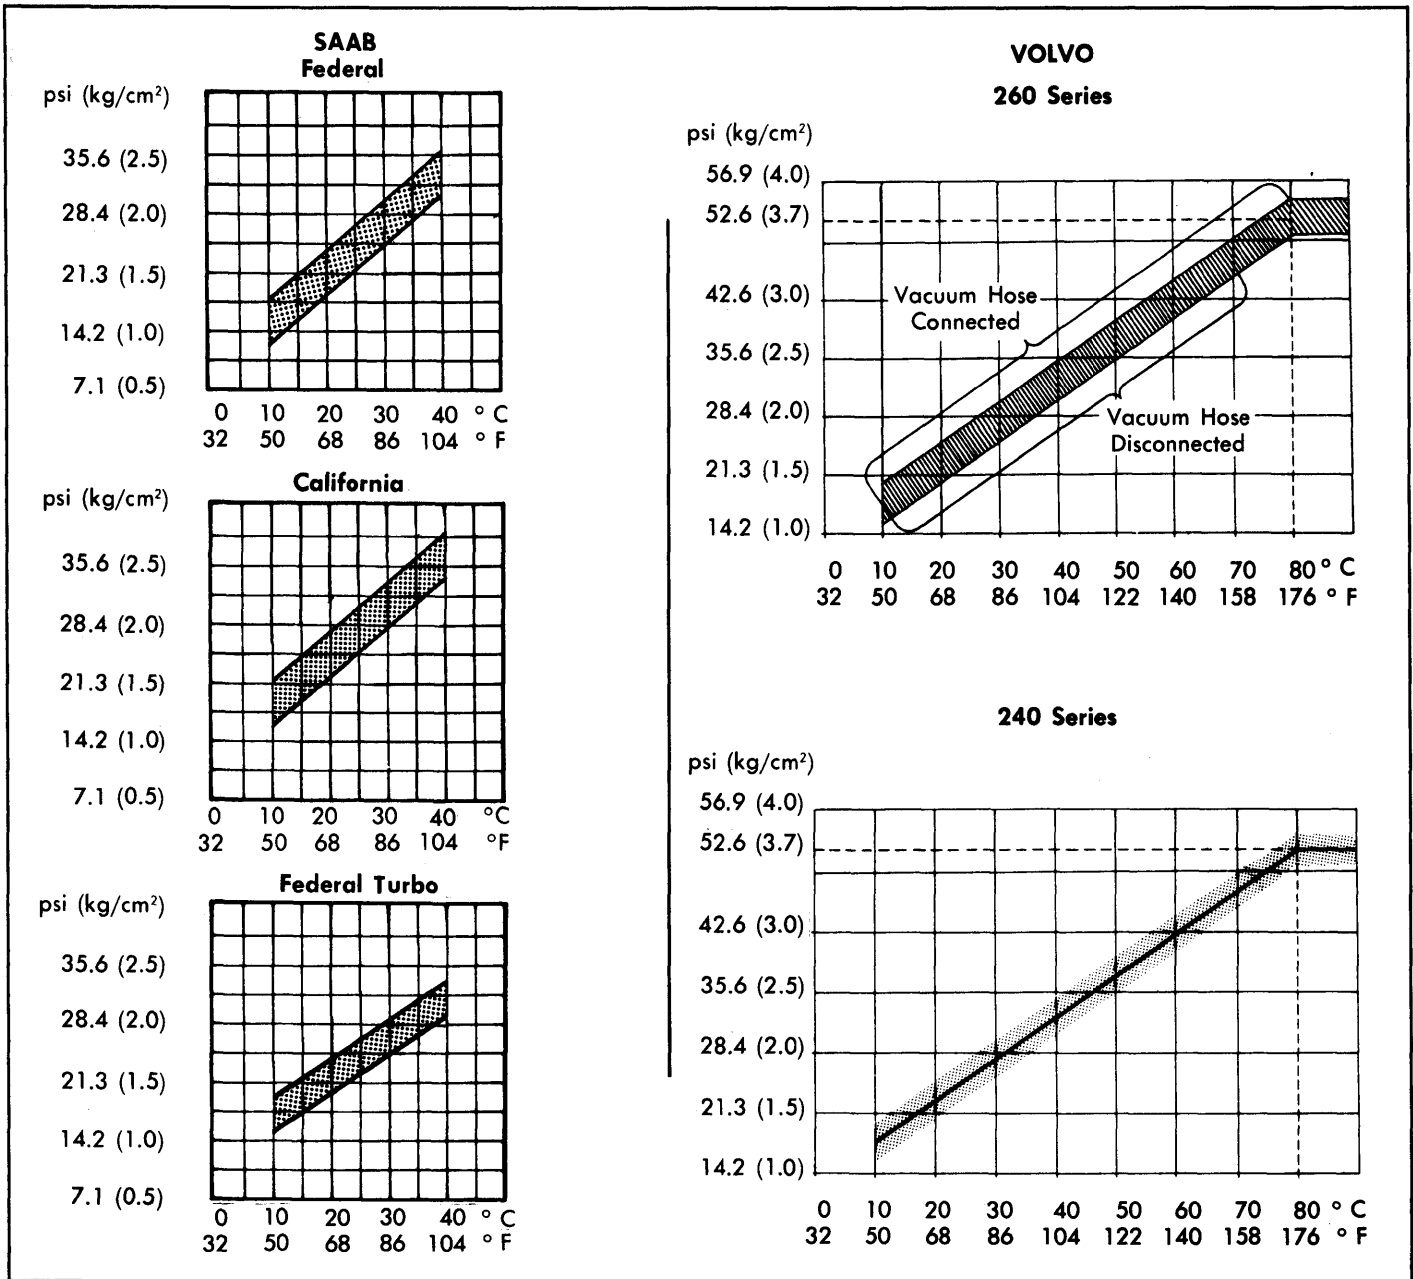

Fig. 4: Cold Engine Control Pressure Test (Pressure/Temperature Relationship) Graphs
2) Unplug connector on control pressure regulator and turn ignition ON. Compare readings with cold engine control pressure graphs. See Fig. 4. If pressures are incorrect, replace control pressure regulator.